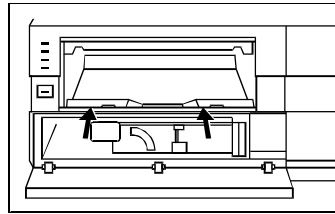

Figure 6-37. Releasing the Bottom Plate
1. Open the paper outlet door and the paper cassette door (Figure 6-37).
2. Push the bottom plate inward (Figure 6-37) to release it.